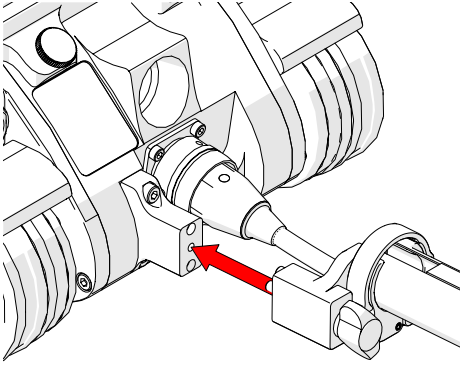

Fig. 180 - Align with umbilical
1. Align the cable management clamp with the appropriate mounting position on the scanner (*Fig. 180*).